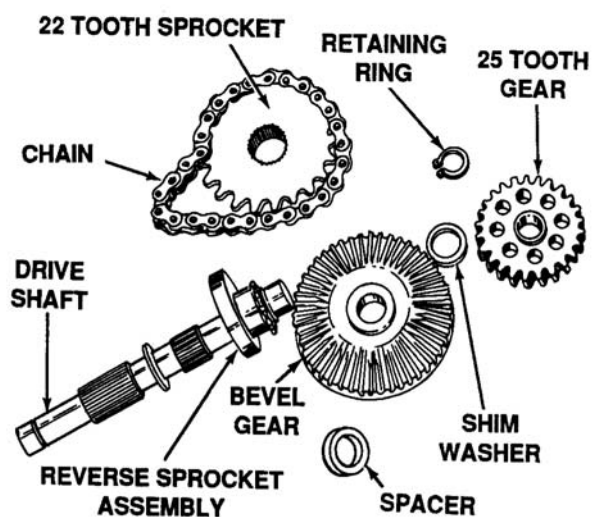

Figure 5-48. Drive Shaft Disassembly
26. Remove the 42 tooth bevel gear and check teeth for wear and any broken teeth. Replace if necessary. See Figure 5-48.